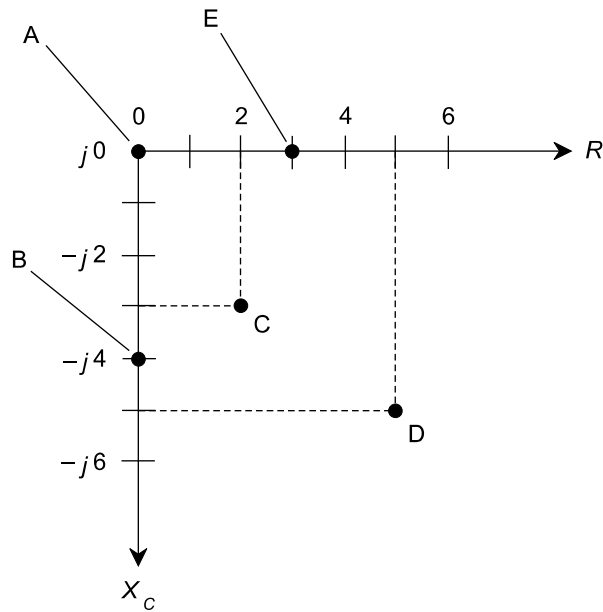
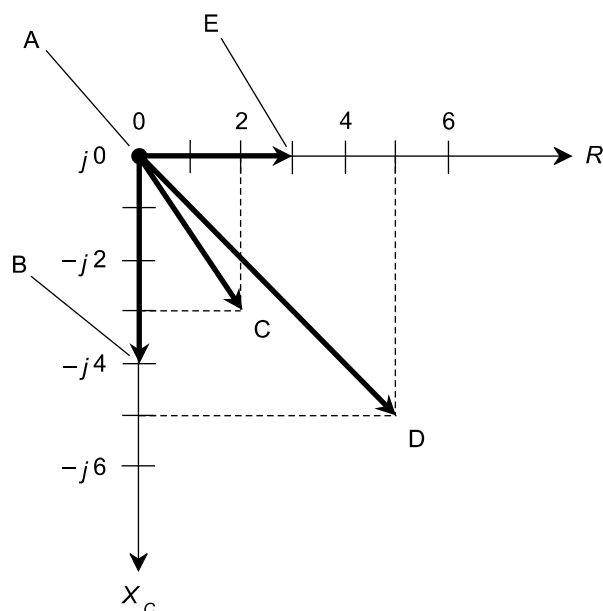

Fig. 3-11. Some points in the RX_C impedance plane. At A, $0 - j0$. At B, $0 - j4$. At C, $2 - j3$. At D, $5 - j5$. At E, $3 - j0$.
Fig. 3-12. Some vectors in the RX_C impedance plane. At A, $0 - j0$. At B, $0 - j4$. At C, $2 - j3$. At D, $5 - j5$. At E, $3 - j0$.
placed end-to-end at right angles to make the RX_C plane (Fig. 3-11). Resistance is plotted horizontally, with increasing values toward the right. Capacitive reactance is plotted vertically, with increasingly negative values downward. Each point corresponds to exactly one complex impedance. Conversely, each specific impedance coincides with exactly one point on the plane. Impedance values that contain resistance and capacitance can be written in complex form. Because X_C is never positive, engineers usually write $R - jX_C$.
In Fig. 3-11, several complex impedance points are shown, corresponding to various combinations of resistance and capacitive reactance. Each point is represented by a certain distance to the right of the origin (0,0), and a certain displacement downwards.
Impedance points in the RX_C plane can be rendered as vectors, just as can be done in the RX_L plane. The magnitude of a vector is the distance of the point from the origin; the direction is the angle measured clockwise from the resistance (R) line, and specified in *negative degrees*. The vectors for the points of Fig. 3-11 are depicted in Fig. 3-12.